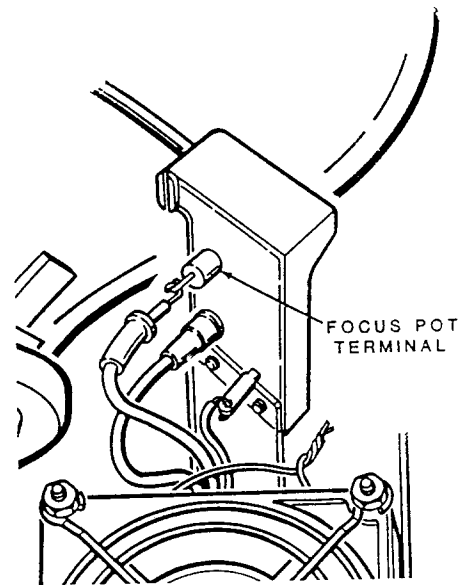

Figure 3-8. Disconnecting the Focus Cable
8. Slide the rubber boot to expose the focus pot terminal of the focus and G2 control assembly, as shown in Figure 3-8.